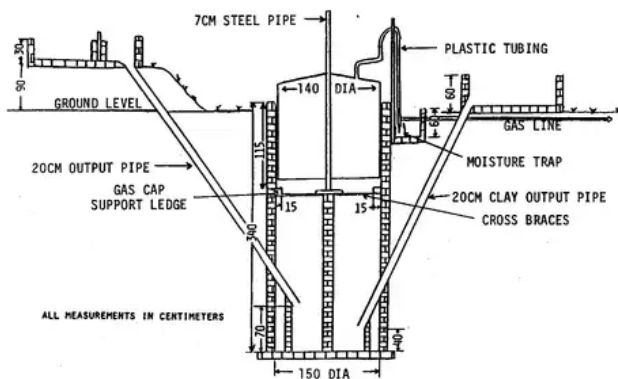

Figure 3. 3-Cubic-Meter Gas Digester
- \* Place a jar of water outside the pit and put into it the end of a downward projection of the gas pipe at least 20cm long. Any moisture condensing in the pipe flows into the jar instead of collecting in the pipe and obstructing the passage of gas. Water then overflows and is lost in the ground. Remember to keep the jar full or the gas will escape. An ordinary tap when opened lets the water escape. Whether using the water jar or tap, do not let the length be greater than 30cm below ground level or it becomes too difficult to reach (see Figure 3 on page 20).